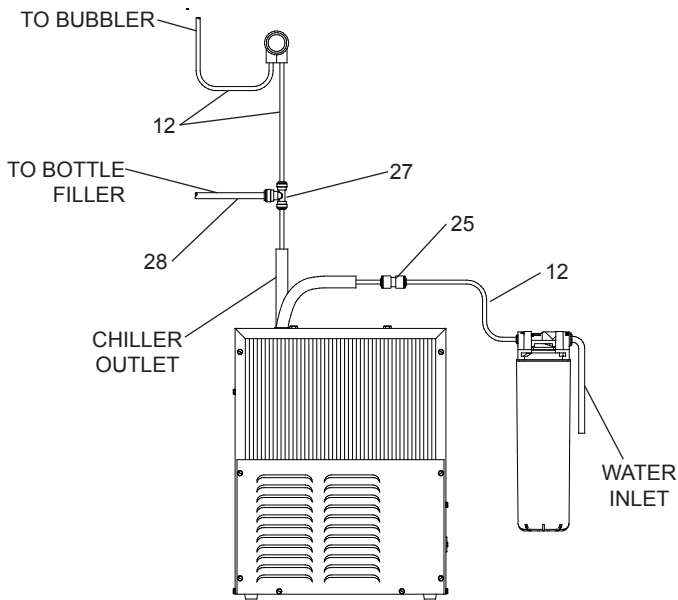

Figure 3 - HTHBWF-OVLER-I Tube Routing
4. **(For HTHBWF-OVLER-I) Install the filter head** to the bracket then install bracket to side of chiller (Fig. 13). Next install filter to filter head and plumb from filter outlet to the chiller inlet with 1/4" poly tubing and 1/4" x 1/4" union per (Fig. 3).
- 4a. **Install chiller on shelf**, install 1/4" X 1/4" x 3/8" Tee on chiller outlet tube. With the back panel standing close to the frame, connect the 3/8" poly tube coming from the bottle filler to the tee (Fig. 3).